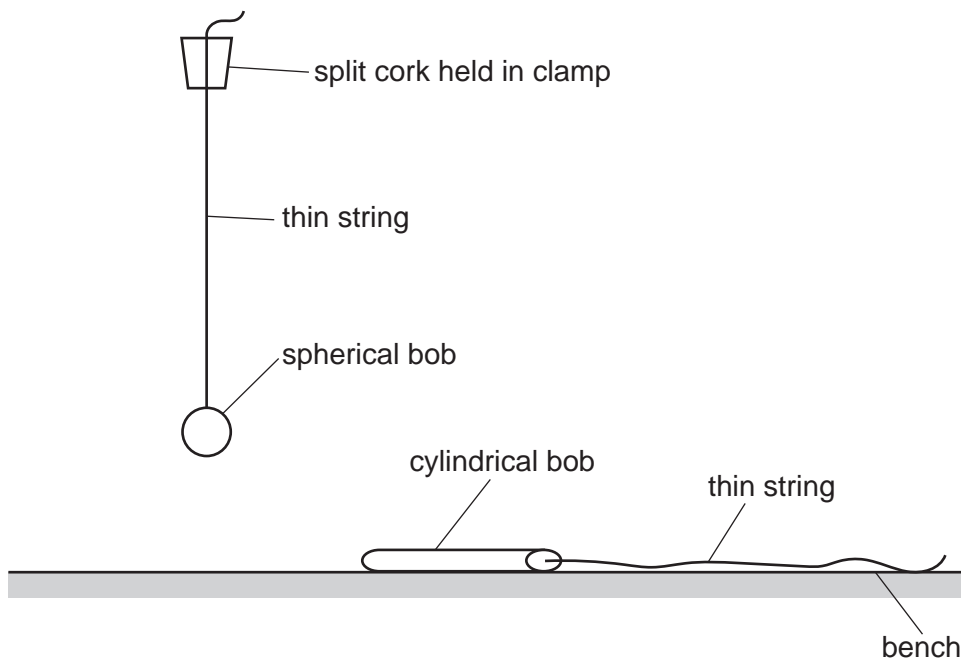

Fig. 1.1
1. One bob must be made from modelling clay, rolled into a spherical shape with diameter approximately 2.0 cm. This pendulum must be set up for the candidates with length approximately 55 cm from the bottom of the split cork to the bottom of the pendulum bob. The pendulum string must be embedded within the bob so that the pendulum can swing without the bob slipping from the string. See Fig. 1.1.
The second bob must be made from approximately the same mass of the modelling clay as the first bob. This is to be rolled into a cylinder of length approximately 5.0 cm, with the string embedded within the bob so that the pendulum can swing without the bob slipping from the string. See Fig. 1.1.